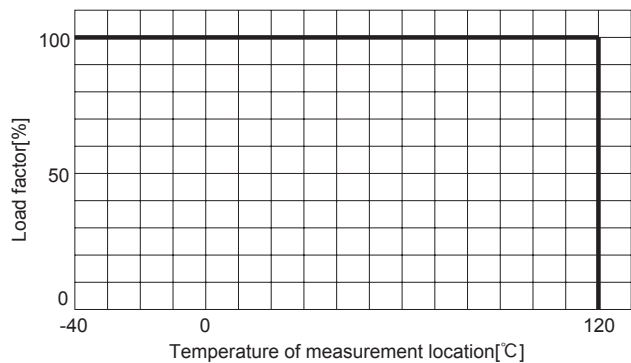
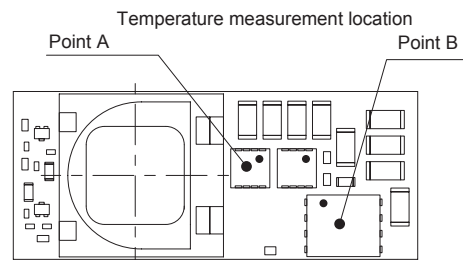
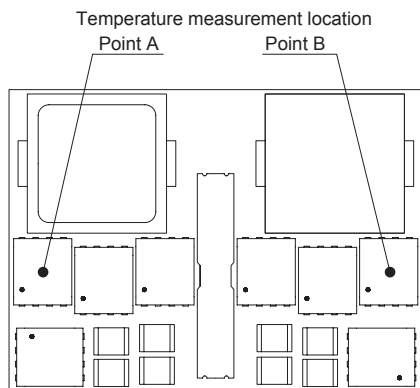

Fig.8.1 Derating curve
Fig.8.2 Temperature measurement location (BRFS30)
Fig.8.6 Temperature measurement location (BRFS100 · BRDS100)
- Make sure the temperatures measurement locations shown from Fig.8.2 to Fig.8.6 below are on or under the derating curve in Fig.8.1.